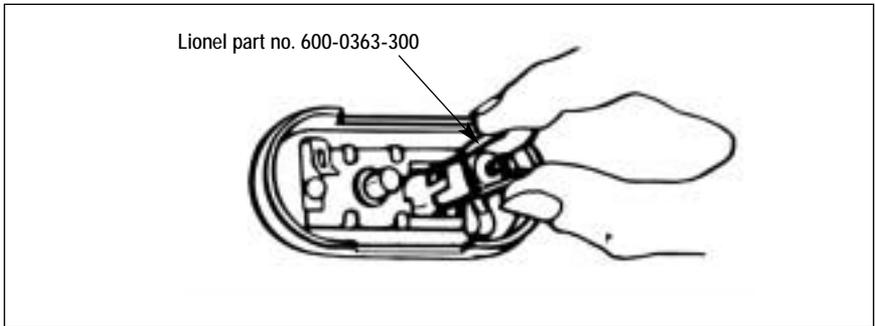

Figure 5. Lamp replacement
1. Locate the two metal tabs on the bottom of the accessory. Squeeze the tabs together to disengage the bracket as you lift it out of the base. Refer to Figure 5.